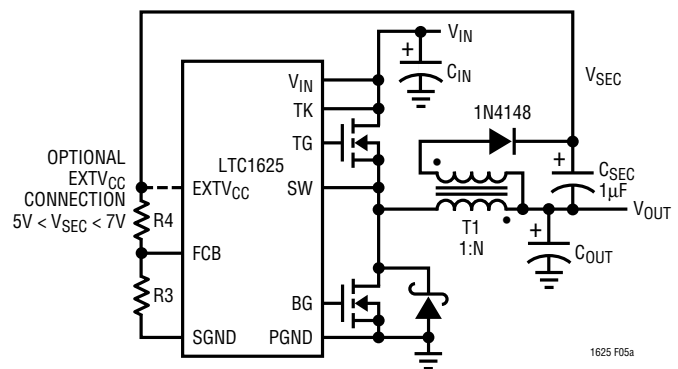
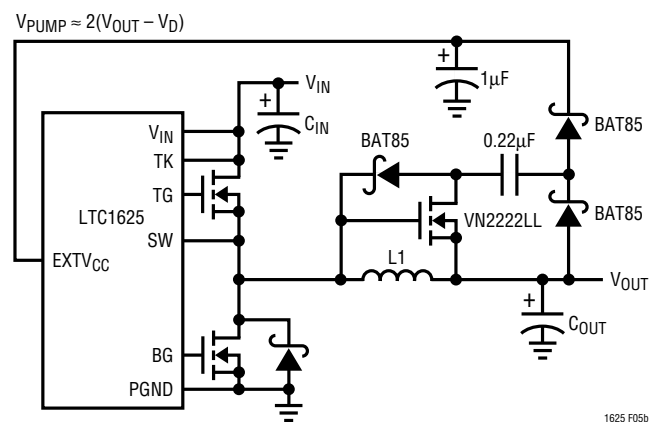

Figure 5a: Secondary Output Loop and $EXTV_{CC}$ Connection
Figure 5b: Capacitive Charge Pump for $EXTV_{CC}$
- $EXTV_{CC}$ connected to an output-derived boost network. For 3.3V and other low voltage regulators, efficiency gains can still be realized by connecting $EXTV_{CC}$ to an output-derived voltage which has been boosted to greater than 4.7V. This can be done with either an inductive boost winding as shown in Figure 5a or a capacitive charge pump as shown in Figure 5b.